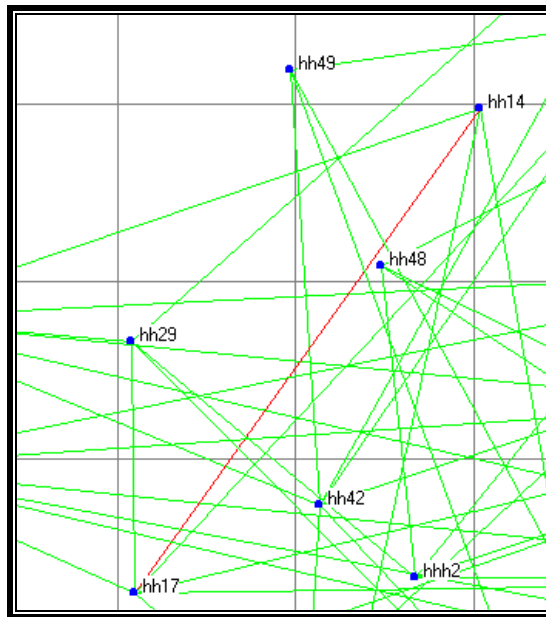

Figure 1-13
- 4) Vectors identified as outliers ('blunders') when adjusting a subnet in the 'Automatic with Blunder Rejecting' or 'Interactive' mode, will be marked in **red** color (e.g., hh14 → hh17 in Figure 1-13):